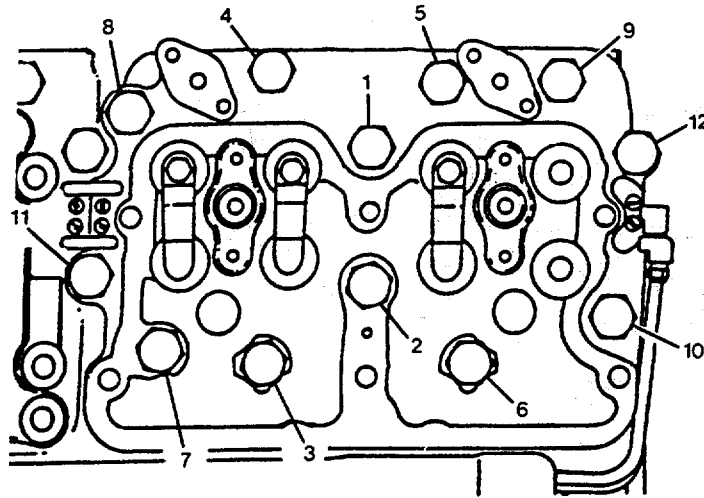

FIGURE 2-55. Cylinder Head Torque Sequence.
- h. Complete the following steps to tighten the capscrews on each cylinder head to the specified values in sequence shown in Figure 2-55.